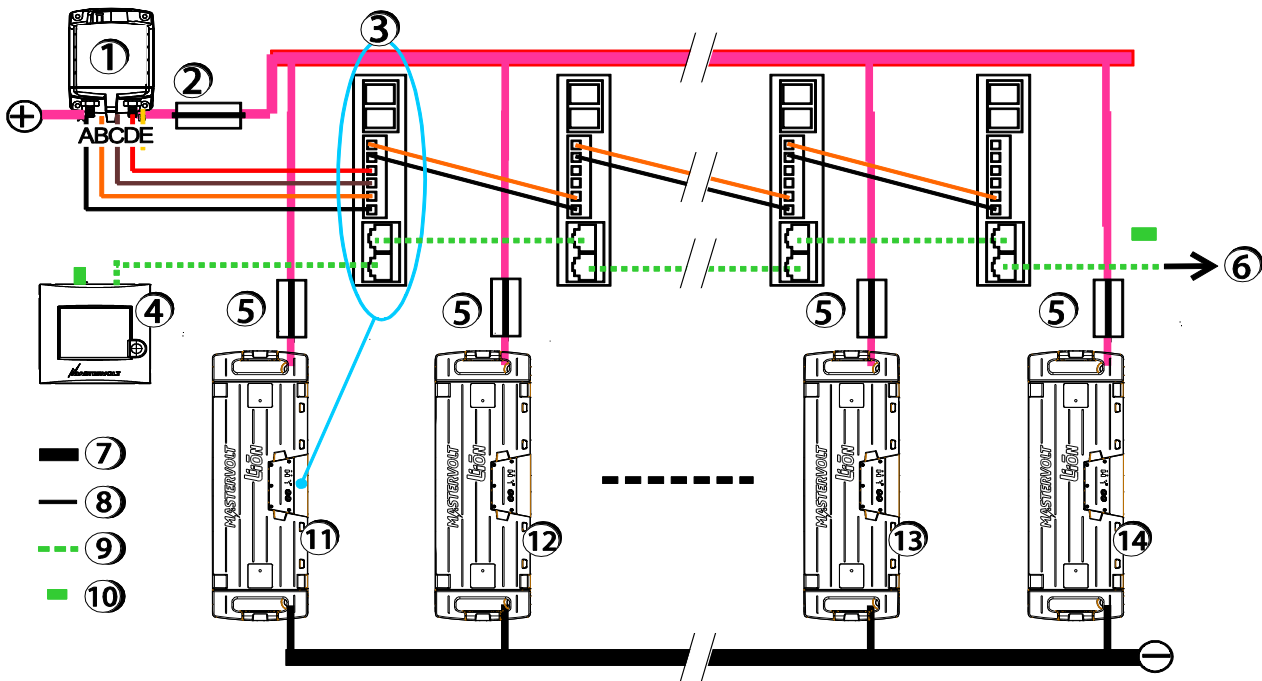

Figure 3-1: Parallel connection, current under 500A
- 3 Operate the Open Relay button on the last battery (figure 3-1, battery 14). If the relay is open (Off), the knob position must be outwards. Keep the relay open.
- 7 Close the relay with the first battery (figure 3-1, battery 11). Verify that a current is flowing *out* of the battery (negative value).